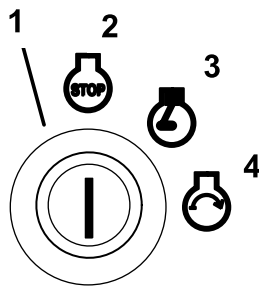

Figure 13
- Turn the ignition key clockwise to the run position (Figure 13). The glow plug light will turn on.
- Turn the ignition key to the off position (Figure 13). Wait for all moving parts to stop before leaving the operating position.